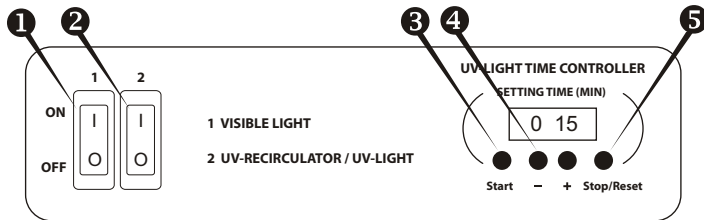

Fig.1. Control Panel
- 4.2.1. Turn ON **switch 2** (Fig.1/2). This automatically turns on the UV-recirculator with the hidden UV-lamp and activates the timer of open UV-lamp. The UV-recirculator will operate all the time until **switch 2** is turned OFF.
- 4.2.2. Use the timer keys + and - (Fig.1/4) to set the time (UV-LIGHT TIME CONTROLLER) of direct UV light exposure of the working place:
4.2.3. Press the **Start** key (Fig.1/Ⓔ), the open UV lamp automatically will be turned on and timer starts counting up the exposure time. Timer indicator shows actual time: until 1 hour - in minutes and seconds (min:sec), after 1 hour - in hours and minutes (hh:mm).
4.2.4. The open UV-lamp can be switched off by pressing **Stop/Reset** key (Fig.1/Ⓕ). The set time of exposition is preserved in the memory. The set time won't be preserved after the complete switching off the UV-cleaner box.
4.3.1. Turn ON **switch 1** (Fig.1/Ⓖ) for lighting of the working place (this turns ON the Luminescent (Visible light) lamp).